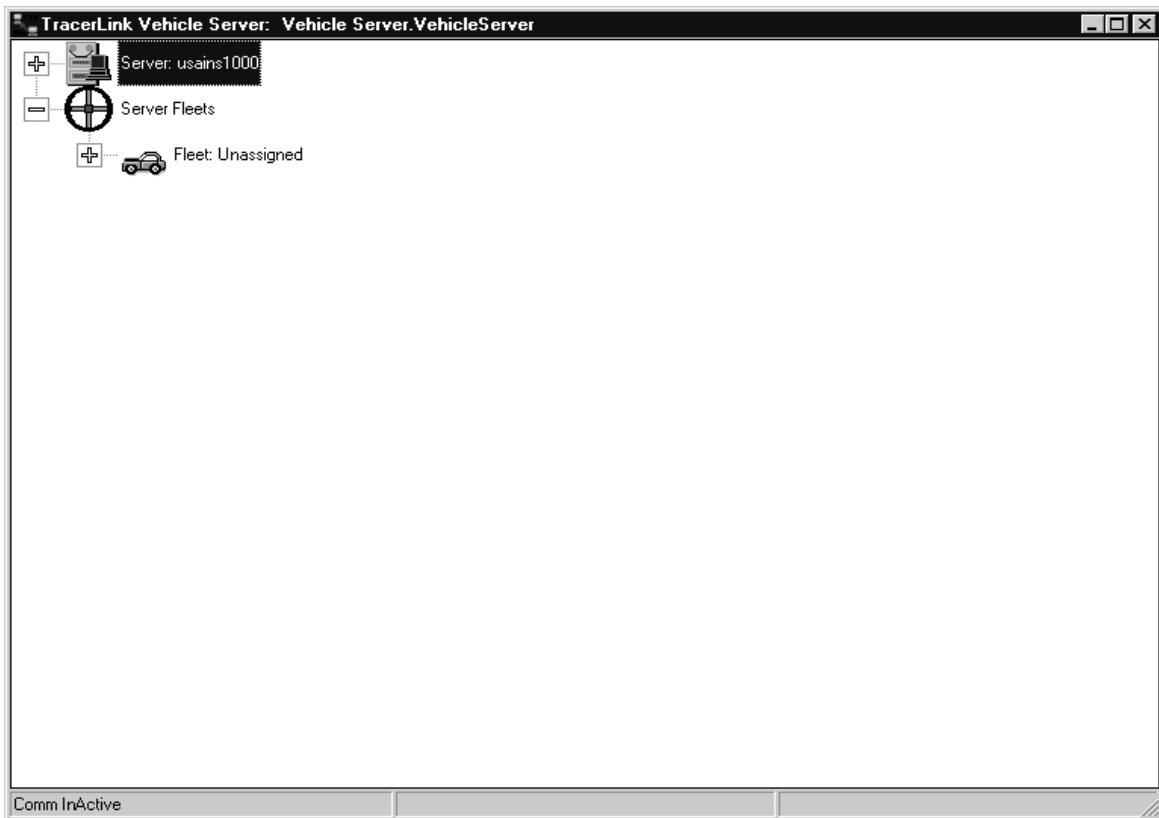

Figure 9-4 Vehicle Server Window – COMM InActive
- (1) Maximize the Vehicle Server window. Usually this window will be minimized, however to verify connectivity between MTS Messenger and TracerLink you will need to maximize the window.
- (2) Check that the lower left status bar says **COMM Active**. This means the Tracerlink Vehicle Server is connected to MTS Messenger. In Figure 9-4, the lower left status bar shows **COMM InActive**.